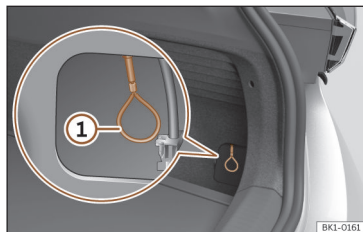

Fig. 62 Behind the cover: emergency unlock of the charging connector.
- Pull the emergency manual release loop  >>> Fig. 62. The charging connector can be removed >>> .